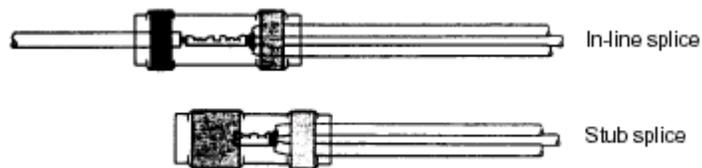

Figure 20-20 Center Sealing Sleeve
7. Center the sealing sleeve over the splice area as shown in Figure 20-20.